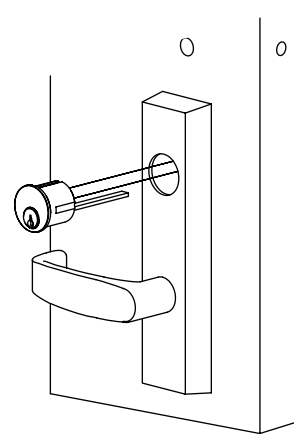

Fig. 4A
1. Insert cylinder into ET trim (Fig. 4A).